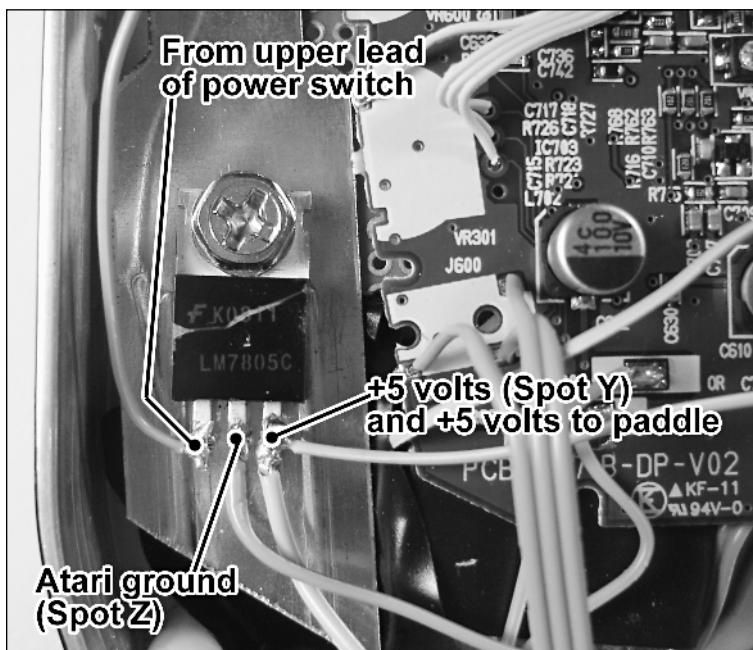

FIGURE 16-13: The installed 7805 regulator and heat sink.
3. Remove the lower left screw from the PC control board and set the heat sink over the hole. Set the 7805 over that, and then reinsert the screw. Make sure the leads on the 7805 aren't touching the heat sink. It should look like Figure 16-13.